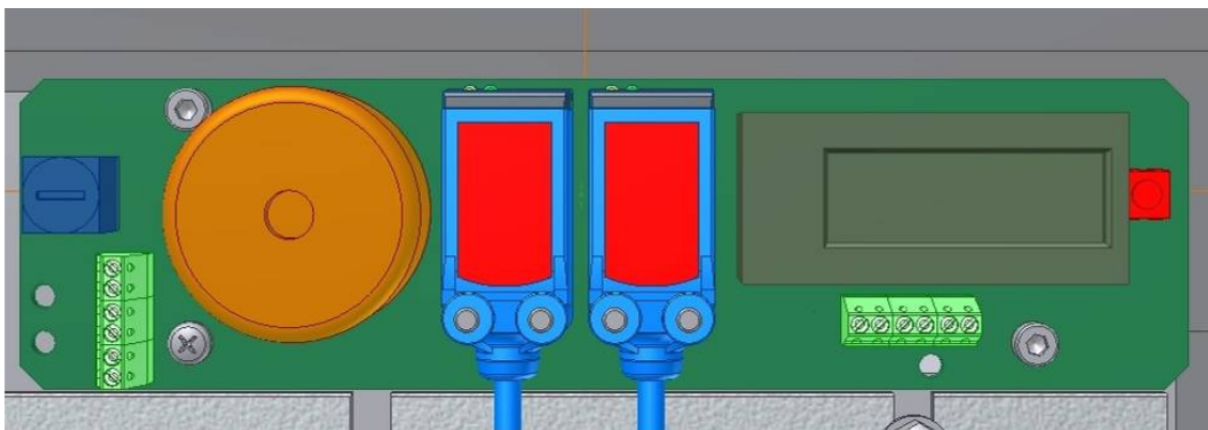

Figure 4.8: Previous Light Beam Crossing Detection Cells & 8 Digit LCD Display
On Figure 4.8 below, the two Beam Crossing Cells support is shown. To do a fine adjustment of the 2 beams, use a hexagonal key to screw or unscrew the top left screw (to adjust height of beams ref 7 circled) and the bottom right screw (to adjust the lateral positioning of the beams ref 8 circled).